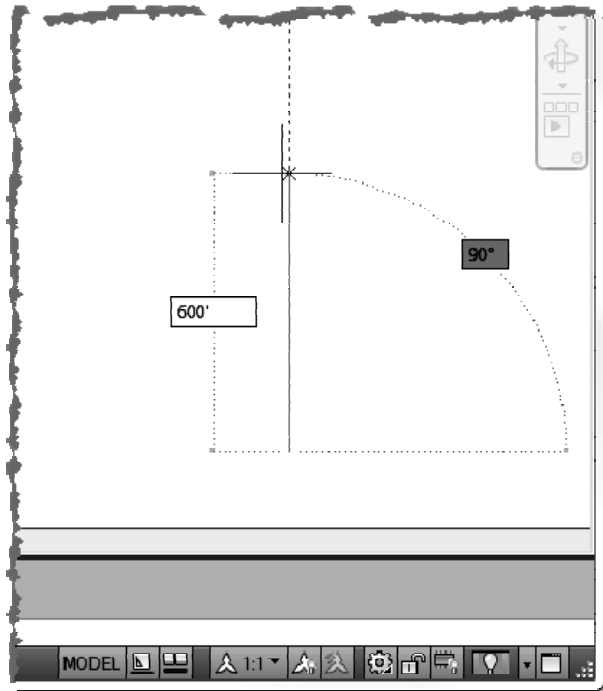

FIGURE 2-1.11
- Move the crosshairs (i.e., mouse) straight up from your first point so that *Polar Tracking* activates (Figure 2-1.11).